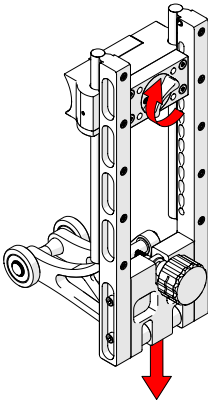

Fig. 10 - Move base to lowest position
1. Turn the vertical release knob and move the base downwards to the lowest position (Fig. 10).